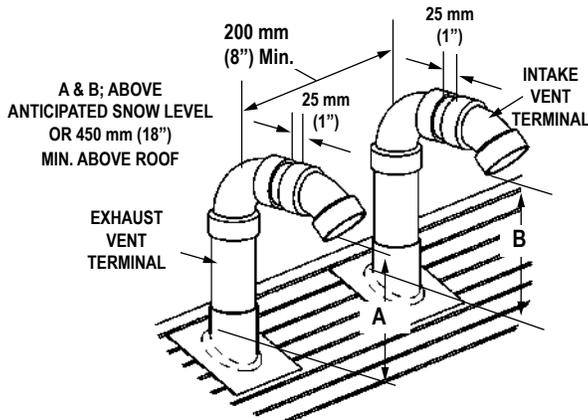

Figure 17. Roof Vent Snow Clearances
**Important:** When terminating the vents through a roof, the following specifications pertaining to terminal location must be followed. See *Figure 17*.